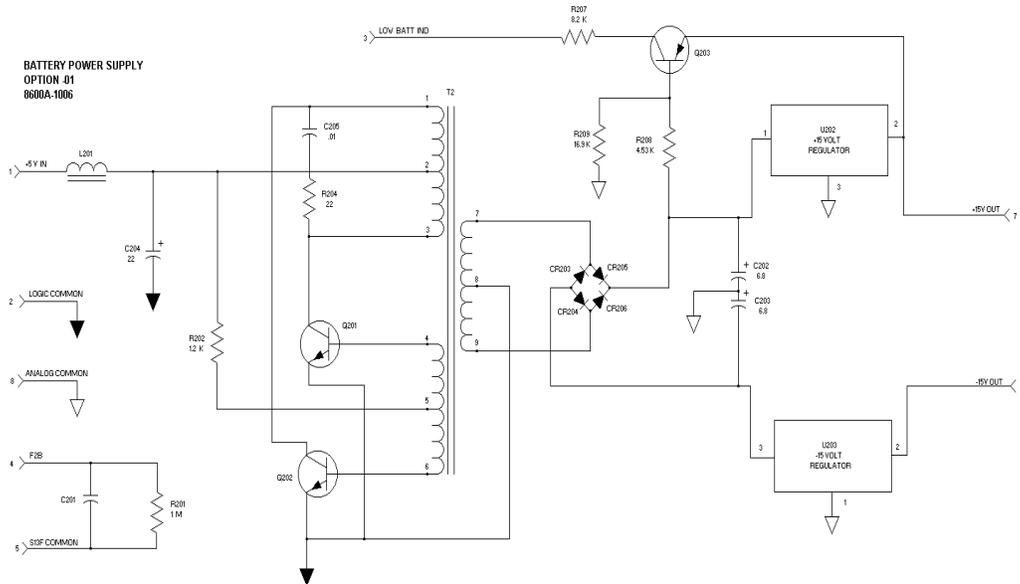

Figure 7. UUT Schematic Diagram Screen (C:\TESTER\GRAPH01.PCX)
3.3 Schematic Diagram. Users can zoom in and out on the drawing by clicking on the ZOOM IN or ZOOM OUT buttons along the bottom of the screen. You can also zoom on an area of the schematic by moving the cursor to the area you are interested in and holding the left mouse button down and dragging to another area. This will enlarge the portion of the Schematic in that window, to the size of the monitor screen. To return the Schematic to 100% view, click on the RESET VIEW button at the bottom of the screen. Multiple Schematic Sheets can be viewed for instances where the UUT has more than one Schematic page. Exit the screen by clicking on EXIT. (See Figure 7, UUT Schematic Diagram, below).